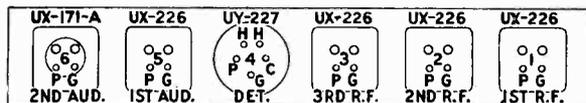

Fig. 1—Top Front View of Radio Tube Sockets
- (1) Turn the power switch to the left to the off position.
- (2) Test between either filament contact of socket No. 1 and the plate "P" contact. (See Fig. 1.)
- (3) Make the same tests for all the other amplifier sockets.
- (4) When testing the detector socket, place the leads in the "C" and the "P" contacts.